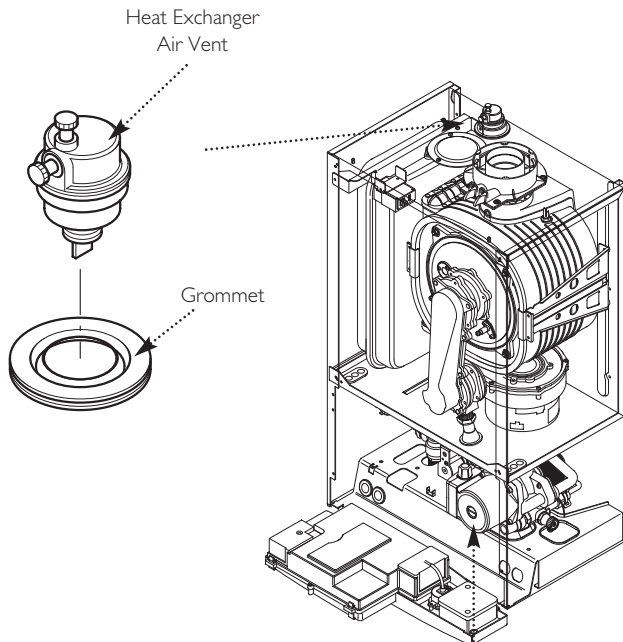

Fig. 90
14.11 Heat Exchanger Automatic Air Vent (Fig. 90)